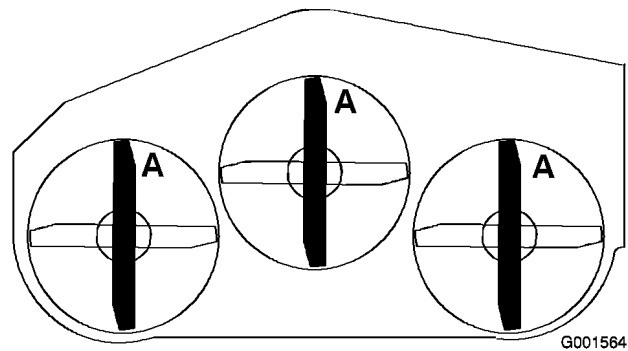

Figure 58
1. Rotate the blades until the ends face forward and backward (Figure 58).